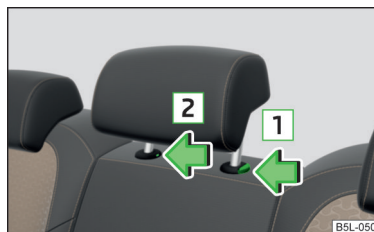

Fig. 47
- Press the locking button in the direction of the arrow  » Fig. 47 while simultaneously pressing the locking button into the opening in the direction of the arrow  using a flat screwdriver with a maximum width of 5 mm, and pull out the head restraint.